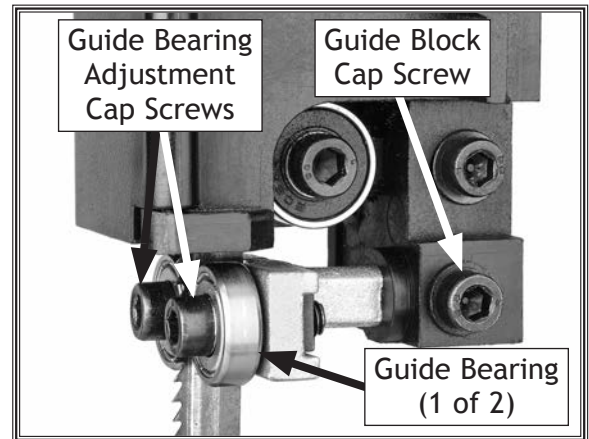
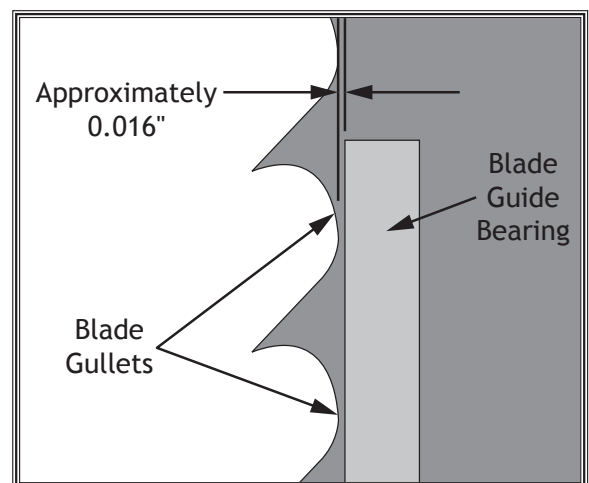
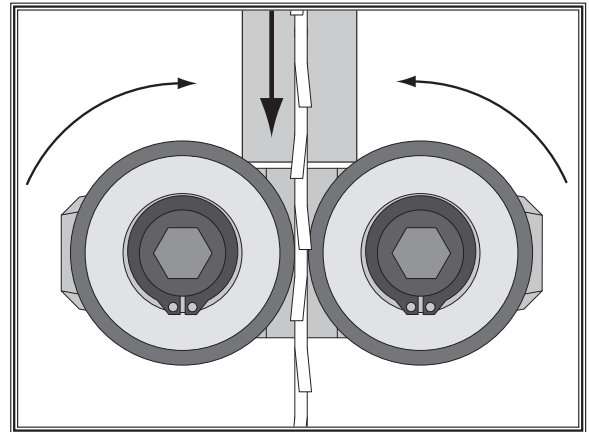

Figure 27. Upper guide bearing components.
Figure 28. Blade guide bearing positioned just behind blade gullets.
Figure 30. Blade guide bearings evenly and lightly touching the sides of the blade.
2. Loosen guide block cap screw shown in **Figure 27**, then laterally position guide bearings just behind blade gullets, as illustrated in **Figure 28**, then re-tighten cap screw to secure setting.
- Loosen both guide bearing adjustment cap screws (see Figure 27), then position guide bearings so they evenly and lightly touch sides of blade (see Figure 30) without deflecting it one way or the other.